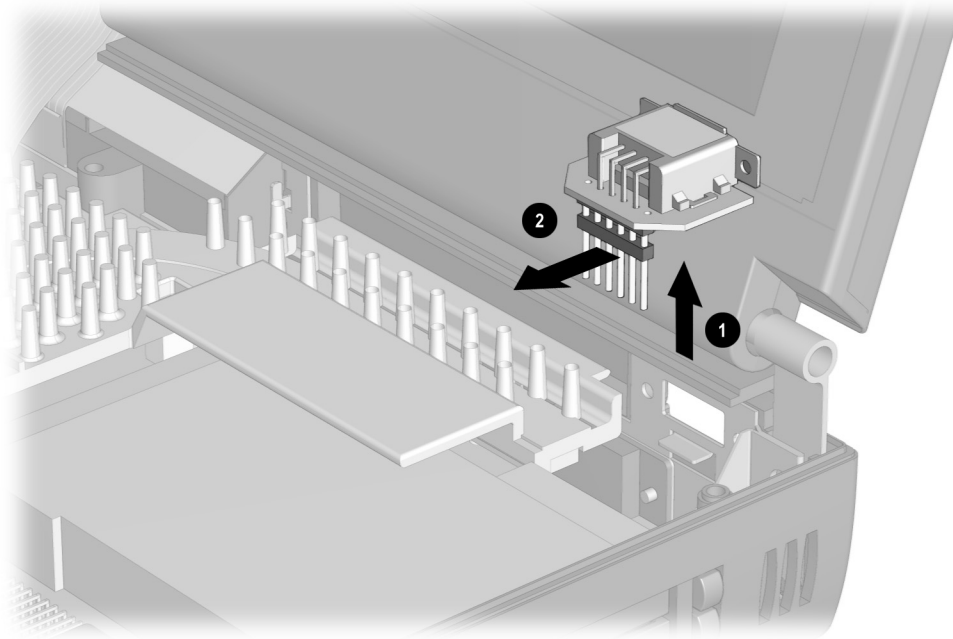

Figure 5-46. *Removing the USB Board*
10. Lift the USB assembly straight up ❶ to disconnect it from the system board (Figure 5-46).
11. Tilt the USB assembly toward the front of the computer and remove it ❷.